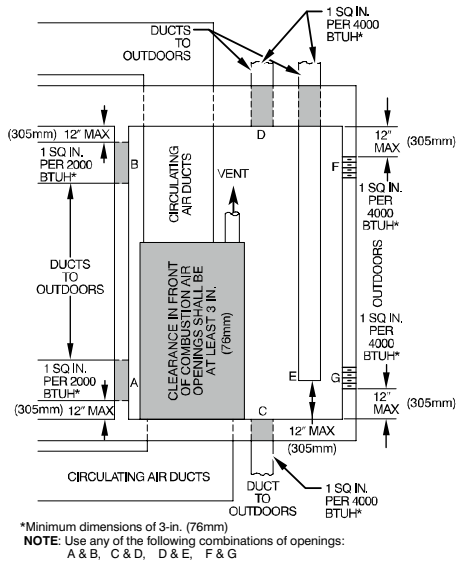

Fig. 8 – Air for Combustion, Ventilation, and Dilution for Outdoors
2. Provide **TWO OUTDOOR OPENINGS**, one inlet and one outlet combustion and ventilation air opening, to the outdoors, see Fig. 8.
- b. Size openings and ducts, see Fig. 8 and Table 3.
- c. **TWO HORIZONTAL DUCTS** require 1 sq. in. (645 sq. mm) of free area per 2,000 Btuh (1,100 mm²/kW) of combined input for all gas appliances in the space, see Fig. 8 and Table 3.
- d. **TWO OPENINGS OR VERTICAL DUCTS** require 1 sq. in. (645 sq. mm) of free area per 4,000 Btuh (550 mm²/kW) for combined input of all gas appliances in the space, see Fig. 8 and Table 3.
- a. 1 sq. in. (645 sq. mm) of free area per 3,000 Btuh (734 mm²/kW) for combined input of all gas appliances in the space, see Fig. 8 and Table 3.